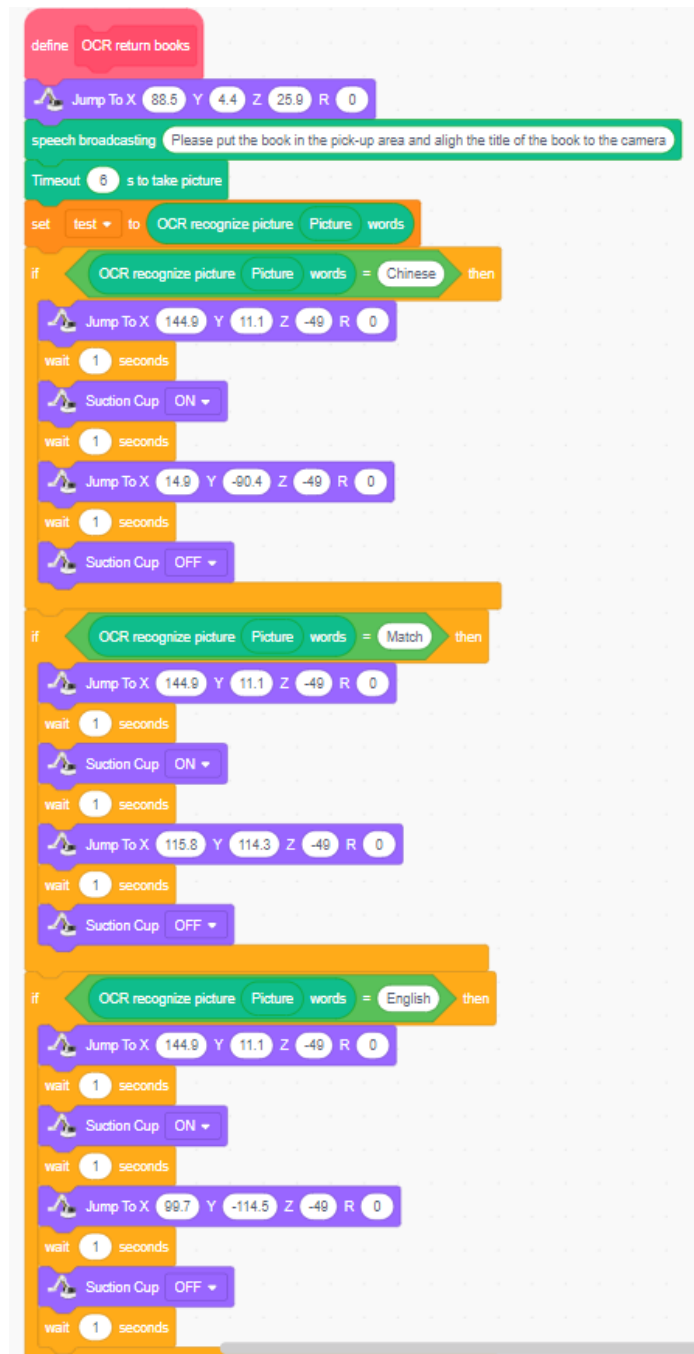

Figure 5.29 Defining the OCR book returning block
Step 4: Likewise, make an OCR book returning block, as shown in Figure 5.29.